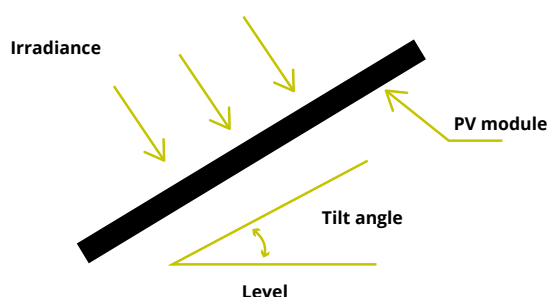

Figure 2 Solar panel inclination
5.3.1 PV module inclination: The angle between the surface of the PV module and the horizontal plane. When the PV module is facing the sunlight, the PV module obtains the maximum power output, as shown in Figure 2.